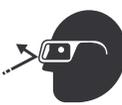

**Figure 37. Gear Teeth Alignment**
4. If gear teeth are not contacting properly (Figure 37), adjust pillow block to correct the problem.